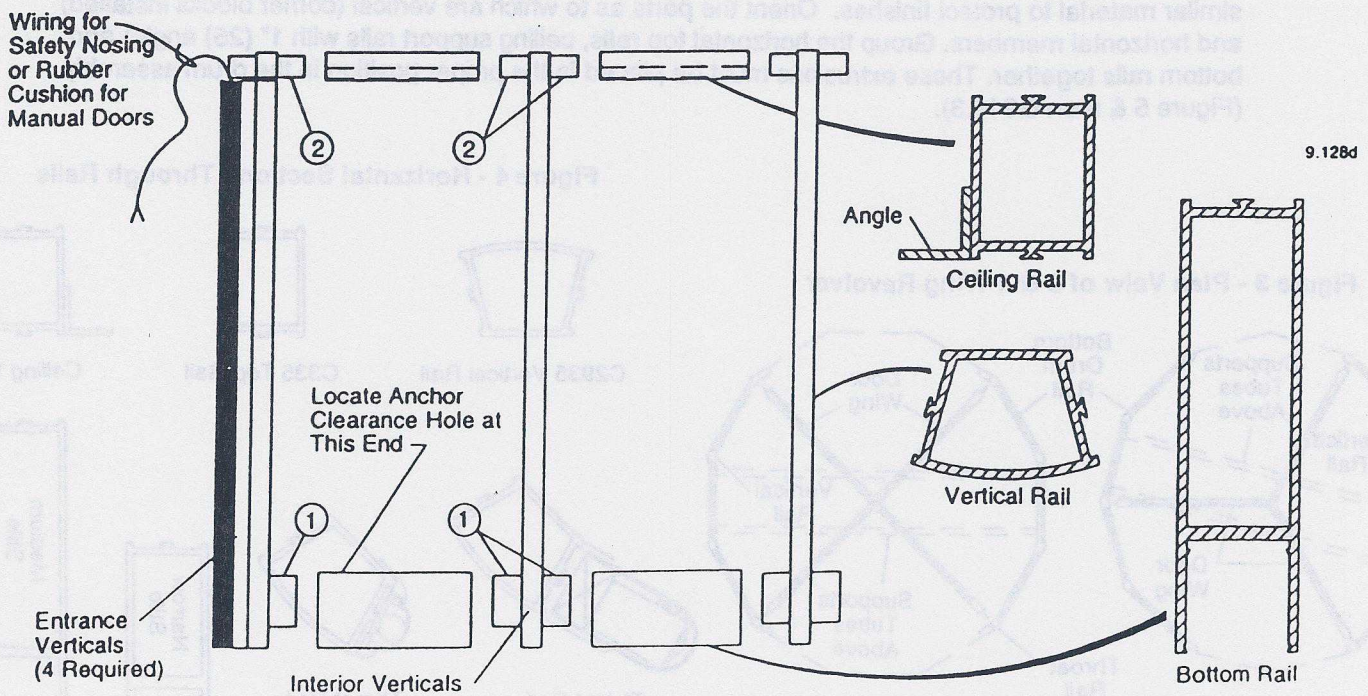

Figure 7 - Drum Assembly
- C. Starting with the vertical drum rails, place one entrance vertical rail on your left and one interior vertical rail on your right, across 2 saw-horses (Figures 7 on this page). Place one bottom horizontal rail on the rail on your right, across 2 saw-horses (Figures 7 on this page). Place one corner block of the entrance vertical rail at point '1' (Figures 5 & 6). Make sure the anchor clearance hole is next to the entrance vertical rail. Place the ceiling support horizontal rail (The one with the 1" (25) angle attached to it) at point '2' (Figures 5 & 6). The short piece of 1" (25) angle on the vertical rails should line up with the 1" (25) angle on the ceiling support horizontal rail. If canopy is segmented, place one top rail at point '3' on the entrance vertical rail. Mate points 1, 2 & 3 (segmented canopy - Figure 5) or points 1 & 2 (round canopy - Figure 6) of the interior vertical rail to the horizontal rails on the entrance vertical (Figures 7 & 8). Secure drum sections first, then canopy sections with #10-24 x 3/4" flat head self tapping screws that are provided in the accessory pack.